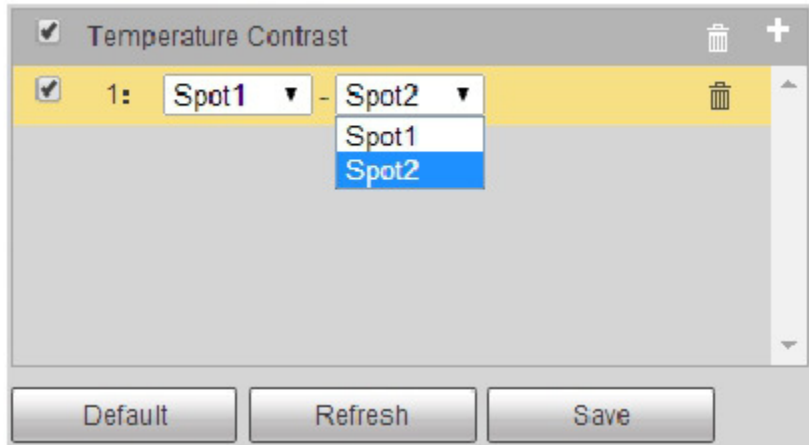

Figure 5-47
Step 2 Select the target which needs to be compared, see Figure 5-47.